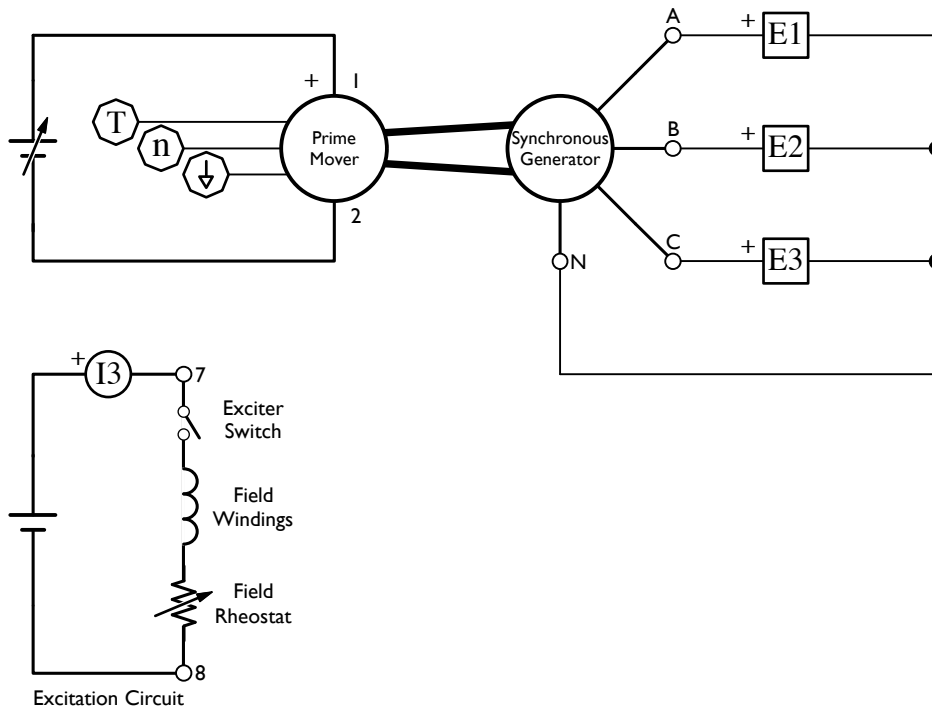

Figure 5.4: Synchronous Generator, No Load, Phase Voltages
- 6. Connect the equipment as shown in Figure 5.4. Use the 4A scale for ammeter I3.